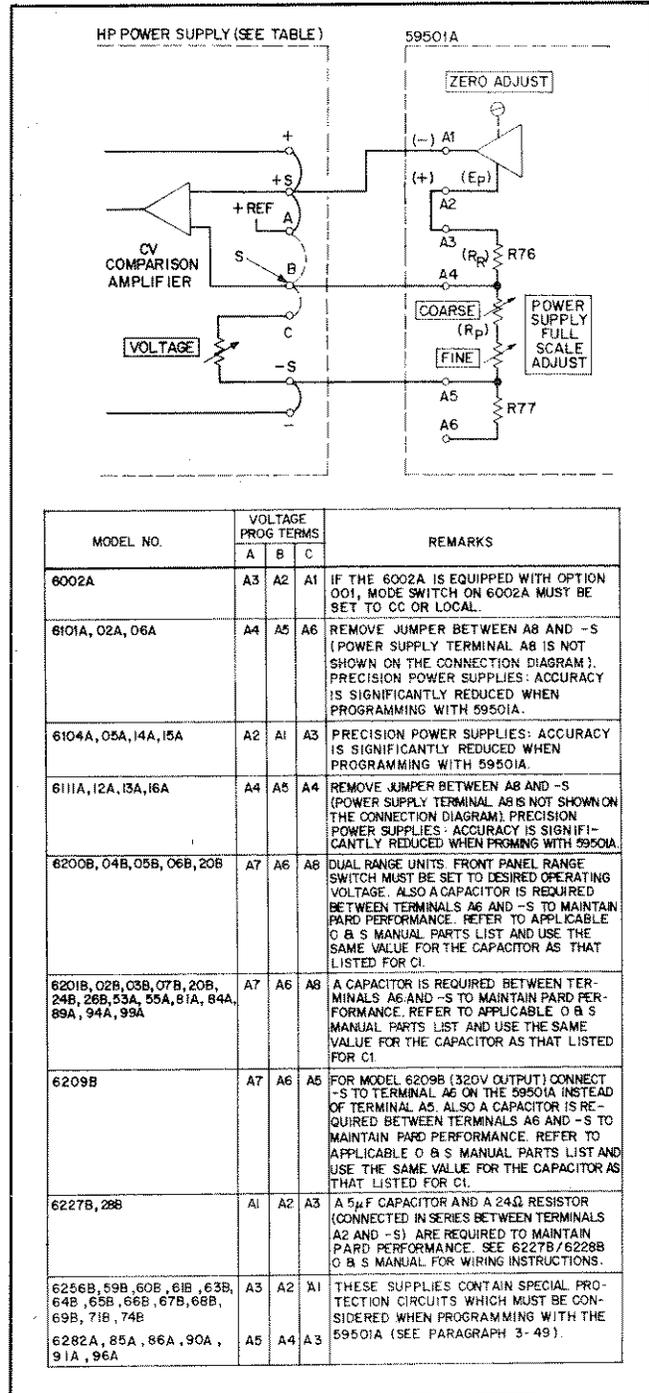

Figure 3-7. CV Programming Connections for HP Power Supplies with +S Common
**3-48 CV Programming Connections.** Figures 3-7 through 3-11 illustrate the connections required to program the CV output of the applicable power supplies. The dotted line connections represent jumpers which must be removed. All other jumpers must be installed as illustrated. Note that only those power supply terminals pertinent to CV programming are shown. Complete terminal strip details are provided in the appropriate power supply Operating and Service Manual. Most of the supplies are programmed using the connections illustrated in Figure 3-7. The specific connections for each supply are tabulated on the diagram.
**3-49 Special Protection Circuit.** As indicated on Figure 3-7, some of the supplies contain a special protection circuit which must be considered when programming with the 59501A. The supplies affected are models 6256B through 6274B, 6282A, 6285A, 6286A, 6290A, 6291A, and 6296A. Down programming the output voltage of these supplies may activate the special protection circuit. When this occurs, the power supply's load cannot draw more than 10% (approx.) of rated output current until the protection circuit resets. If it is desired to program the output voltage down to a lower value without the need to draw full output current, the reset time is not important. The reset time can take from 500msec to 6 seconds depending upon the particular model, the load, and the starting and the ending voltage values. For example, the actual output voltage of a 6264B supply takes only 80msec for its output to go from 20 volts down to .1% (20 millivolts), but it will be about 800 milliseconds before the circuit resets allowing the full output current to be supplied to the load. Additional information concerning this protection circuit is provided in HP-IB/Power Supply Guide, HP Part No. 5952-3990.